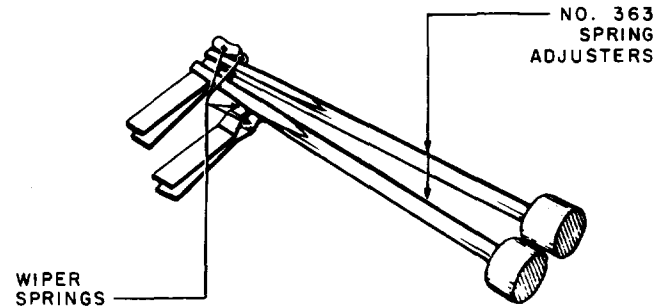
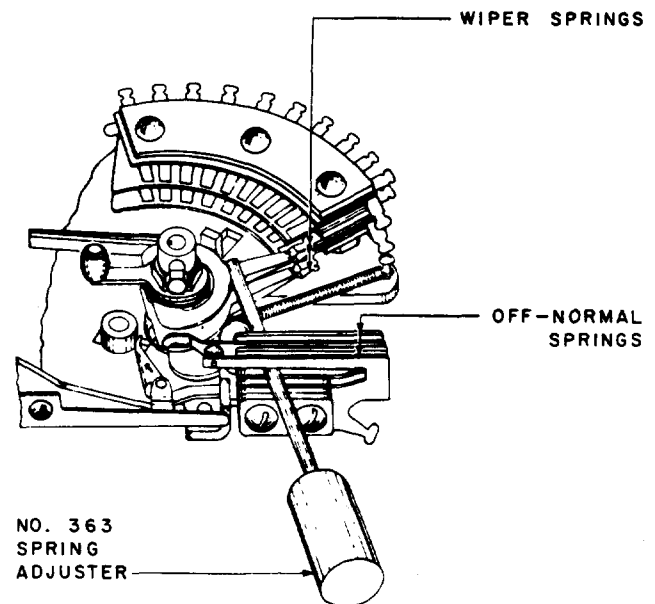

Fig. 16—Method of Adjusting for Wiper Spring Tip Separation
Fig. 17—Method of Adjusting for Wiper Spring Tension
- (1) If the separation between the wiper spring tips is not satisfactory, rotate the wiper springs off the bank to the right and adjust the tips of the springs with the 363 spring adjuster as shown in Fig. 16.
- (2) If the wiper springs fail to pass smoothly on and off the bank contacts due to the form of the tips having been changed in making this adjustment, attempt to reform them by means of the 363 spring adjuster. If impossible to correct satisfactorily, replace the wiper as outlined in Section 026-708-801.
- (3) The adjustment for wiper spring tension may ordinarily be made manually rotating the wiper assembly off the bank and adjusting the wiper springs with the 363 spring adjuster at the point where the straight portion leaves the circular portion. The upper pair of wiper springs may be adjusted by inserting the 363 spring adjuster through the off-normal spring assembly as shown in Fig. 17 and the lower pair of wiper springs by inserting the adjuster below the springs and between the springs and selector base. This operation may be facilitated if the wiper assembly is removed from the